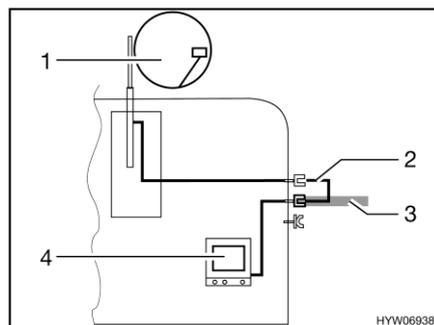

Fig. 209 TV inside the vehicle
- TV inside the vehicle (Fig. 209,4): Connection to roof antenna (Fig. 209,1) with connection cable (Fig. 209,2)
- TV inside the vehicle (Fig. 209,4): Connection to external antenna (Fig. 209,3)